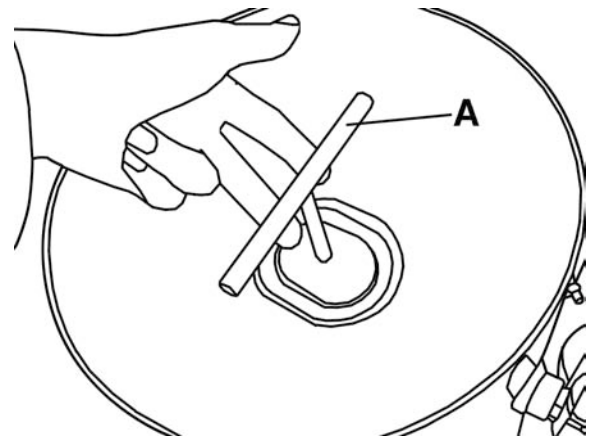

Figure 6
Locate the lid with handle (A) Fig.6. This lid gets placed into the opening of the pressure tank. When compressed air is introduced into the pressure tank, lift the handle up and the lid will be held in place by the build up of pressure in the tank. See Fig.6.